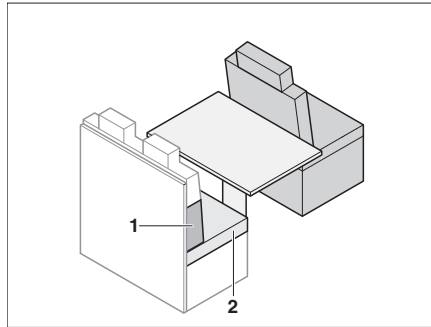

Fig. 168 Prior to conversion
- Remove the seat cushion (Fig. 168,2).